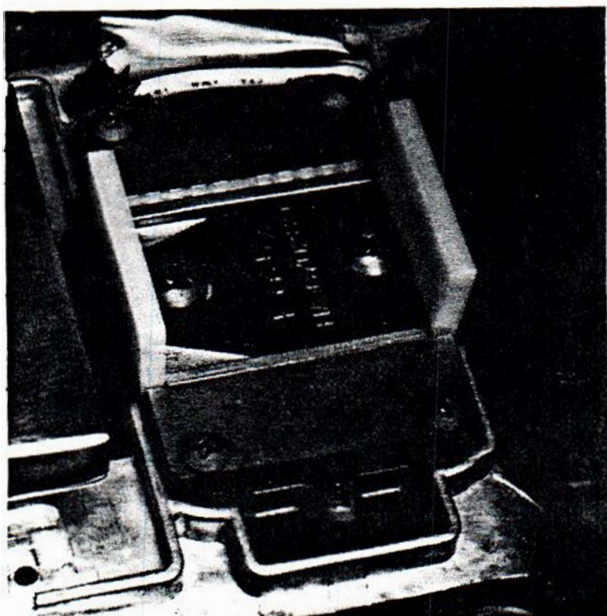

Figure 22. Handle Pivot Spring Assembly Shim Tool Use
- C. Locate handle pivot spring assembly rivet into vertical lever fork of drive system and place tab of spring assembly in position on slide. See Figure 22.